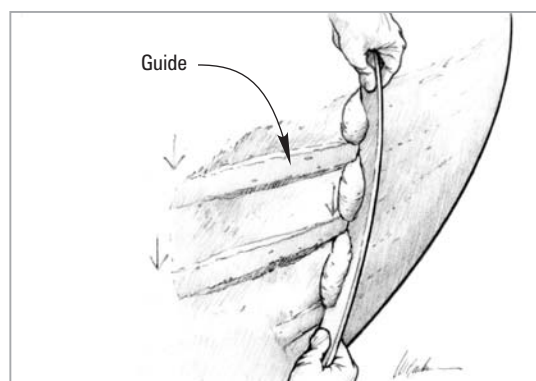

Figure 12 Drag the batten along the guides, removing excess mixture and leaving the surface between the guides smooth and level with the
10. Shape the fairing mixture before it begins to gel, using an appropriate batten. With the batten held perpendicular to and pressed to the guides, drag it along the guides. The batten will follow the guide profiles, removing excess mixture and leaving the surface between the guides smooth and level with the guides (*Figure 12*). To give yourself adequate working time in warmer temperatures, use 206 or 209 Hardener or fill just one section at a time. Allow the fairing mixture to cure thoroughly.